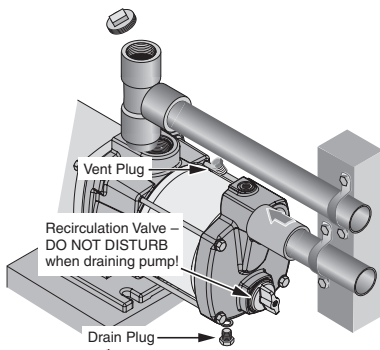

Figure 16
**DO NOT** remove the recirculation valve cover (there are spring-loaded parts inside the recirculation valve – see Figure 16, Page 9) when priming or draining the pump. The drain is a hex-head pipe plug underneath the pump body. To drain the pump, remove the hex plug (Key No. 17, Page 12). Do not disturb the recirculation valve (Key No. 19, Page 12).
**NOTICE:** Drain pump (see Figure 16) when disconnecting from service or when it might freeze. You can fill the pump with RV anti-freeze (propylene glycol) to prevent it from freezing. **DO NOT** remove the Recirculation Valve to drain the pump (Figure 16). Remove the hex head plug on the bottom of the Pump Suction Body to drain the pump.
**NOTICE:** Do not disturb the recirculation valve (see Figure 16). It is **NOT** a drain plug!